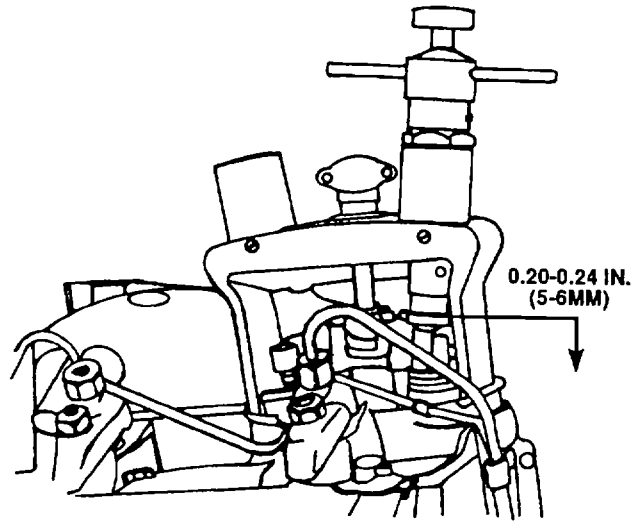

Figure 4-38. Setting the Adjusting Drive
5. Using the pressure screw of the adjusting device, press down the rocker arm by 0.20 to 0.24-inch (5 to 6 mm) (figure 4-38).